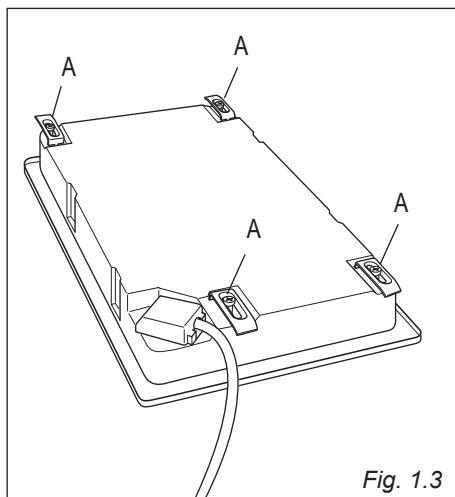

Fig. 1.3
Each cooker top is provided with an installation kit including brackets and screws for fastening the top to fixture panels from 30 to 40 mm thick, figs. 1.3, 1.4.
- Turn the cooktop over and put tabs "A" (fig. 1.3) into the mountings, only tighten screws "B" a few turns.